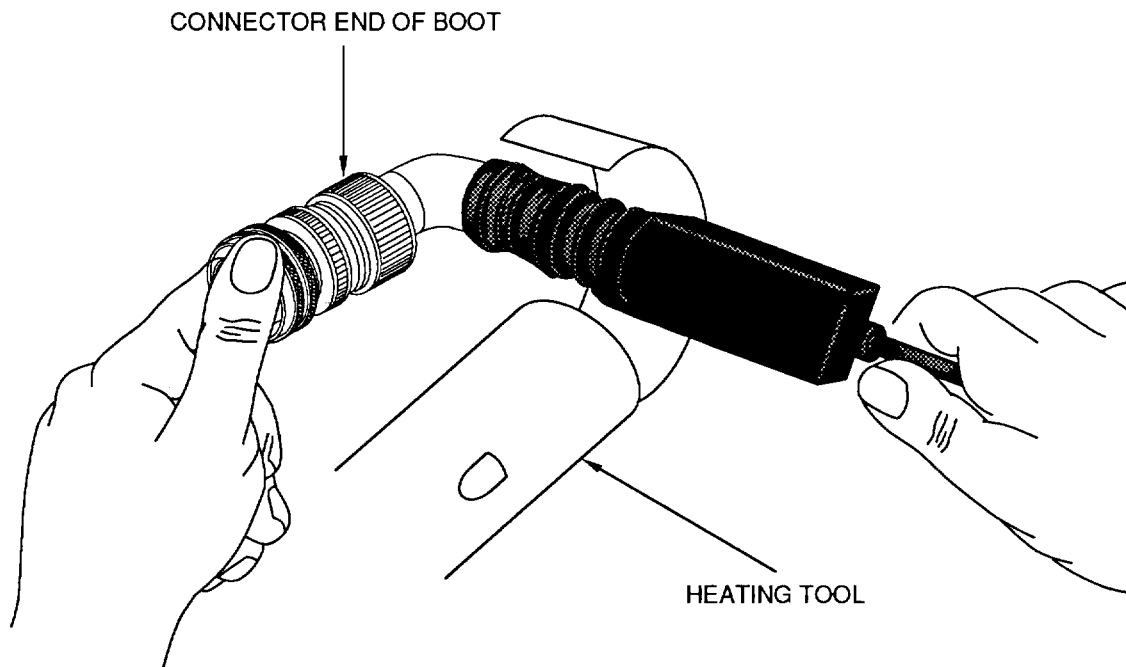

Figure 14. Shrinking Boot Over Connector Adapter
i. Using heat gun and reflector shrink boot onto backshell adapter or connector first, then work toward cable end of boot (Figure 14).